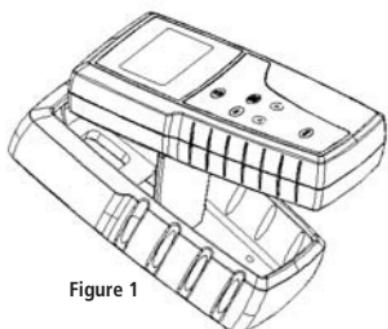

Figure 1
- 1 To remove meter from rubber armour, push out from the bottom edges of meter until it is completely out of boot. Ensure that your electrode cables are not connected. See **Figure 1**.